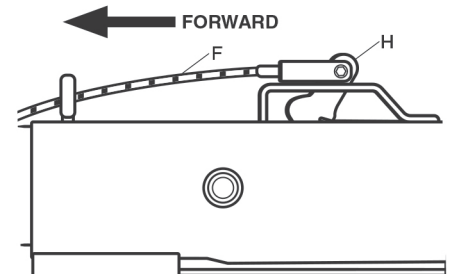

Figure 5
NEVER tow the tow dolly unless the emergency brake lever (H) is in the fully rearward position. (Figure 5) See decals also, for proper position of emergency brake lever for towing. The emergency brake cable (F) attaches to the emergency brake lever (H) on top of the hydraulic brake mechanism. (Figure 5) When the emergency brake cable is pulled forcefully, the emergency brake lever will move forward and lock, activating the tow dolly brakes. The tow dolly brakes will remain activated until the emergency brake lever is reset to the fully rearward position. Call U-Haul at 1-800-528-0355 if you need the emergency brake lever reset to rearward position.